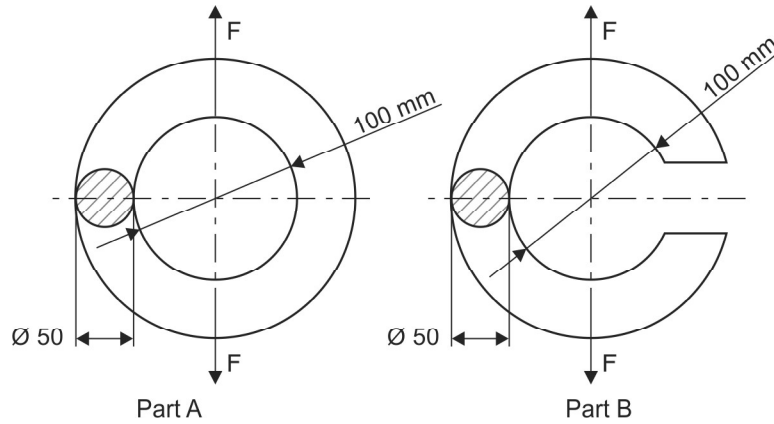

Fig. 1.22(a): Problem 17
17. A closed ring is made up of 50 mm diameter steel bar having allowable tensile stress of 200 MPa. The inner diameter of the ring is 100 mm. For a load of 30 kN, find the maximum stress in the bar and specify the location. If the ring is cut as shown in part B of Fig. 1.22(a), check whether it is safe to support the applied load.
Case a: To find $\sigma_i)_r$, $\sigma_o)_r$, for ring [part A: Fig. 1.22(a)]
Case b: To find F , for circular beam [part B: Fig. 1.22(a)]
Case a: To find stresses for ring [part A: Fig. 1.22(a)]